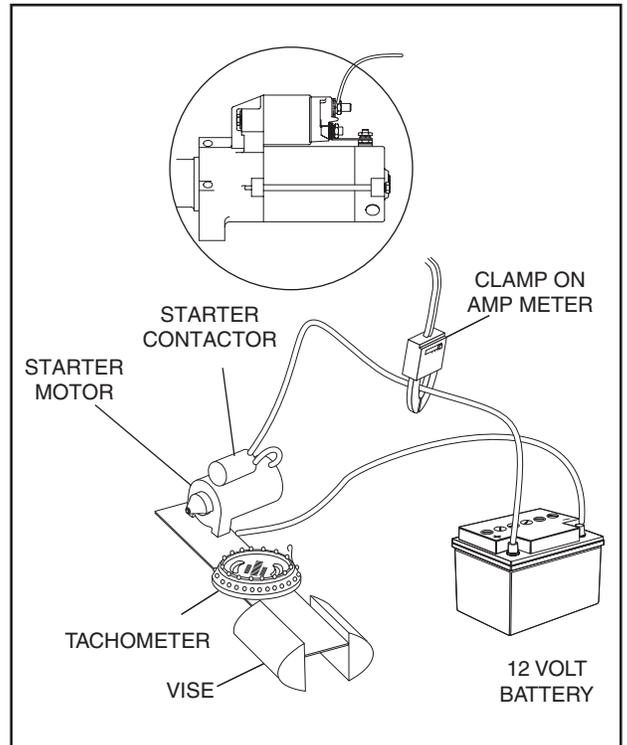

Figure 6-34 – Testing Starter Motor Performance
It is recommended that the Starter Motor be removed from the engine when testing Starter Motor performance. Assemble starter to test bracket and clamp test bracket in vise (Figure 6-34).
2. Connect jumper cables and clamp-on ammeter as shown in Figure 6-34.